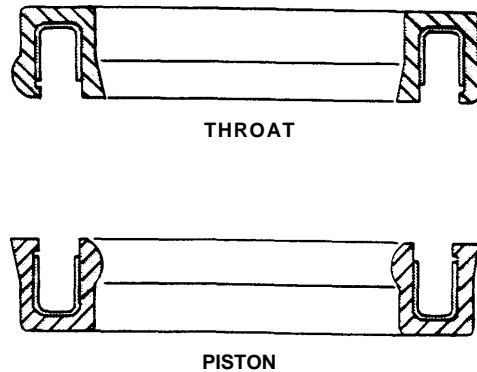

Fig 3
NOTE: Notice the difference between the 2 piston packings (8) and the throat packing (1). See Fig 3. Be sure to install the packings as shown.